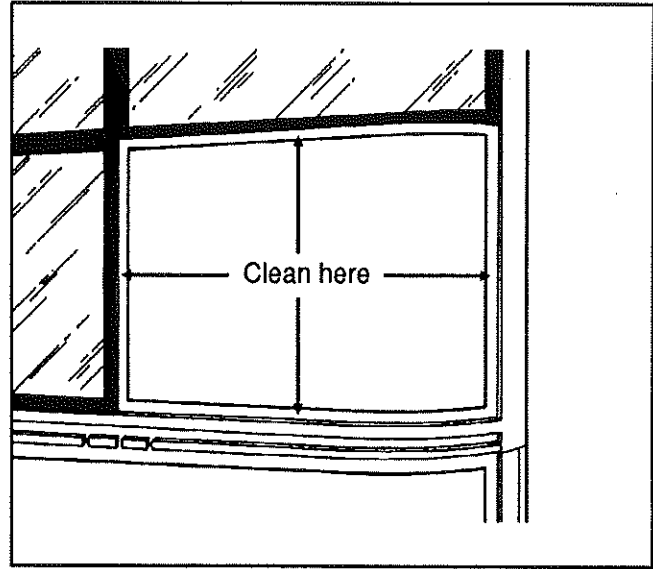

Fig. 34
1. Clean the windshield opening sealing surfaces with isopropyl alcohol and let dry 1 to 2 minutes. See figure 34.